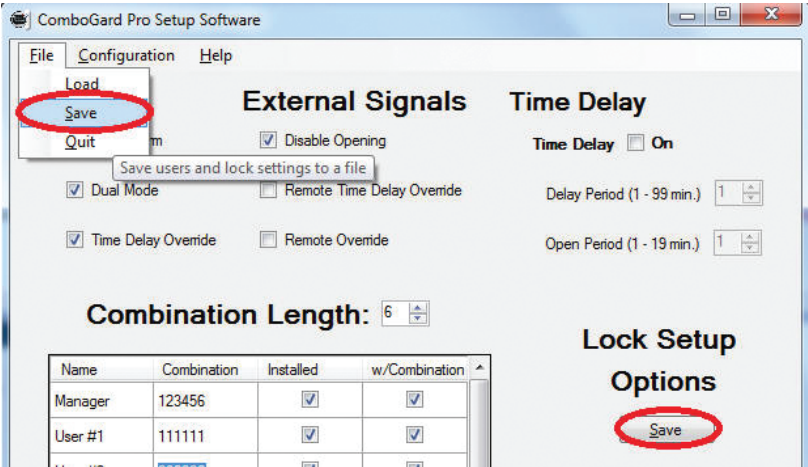

Figure 15
- 1. Click the **Save** button or on the **Files** tab at the top of the program and select Save (Figure 15).